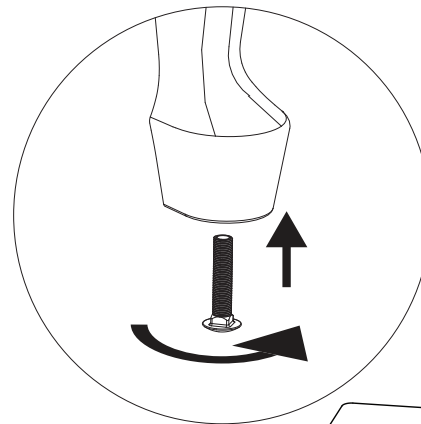

Figure 19.3
7. Use leveling bolts on legs to stabilize and level stove (**Figure 19.3**).